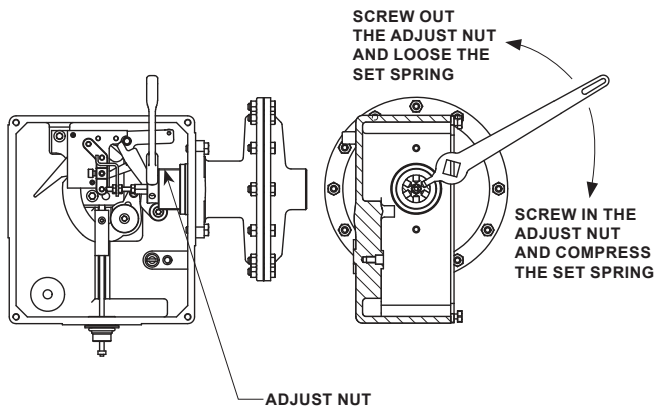

Figure 9. Adjust Nut Rotation Using the Handle
- Loosen the locknut. Then, by using the handle, rotate the adjust nut, see Figure 9. When high-pressure gas is in the manometric sensing device (BMS), it is difficult to rotate the adjust nut by the handle. Do not use an extension or apply a great force on the handle, this will cause damage to some parts. First, release or exhaust the pressure of the BMS. Screw in or out the adjust nut once the pressure has been exhausted. Then, pressurize the BMS to the desired trip pressure. Check the pressure value at the trip point and adjust if necessary.